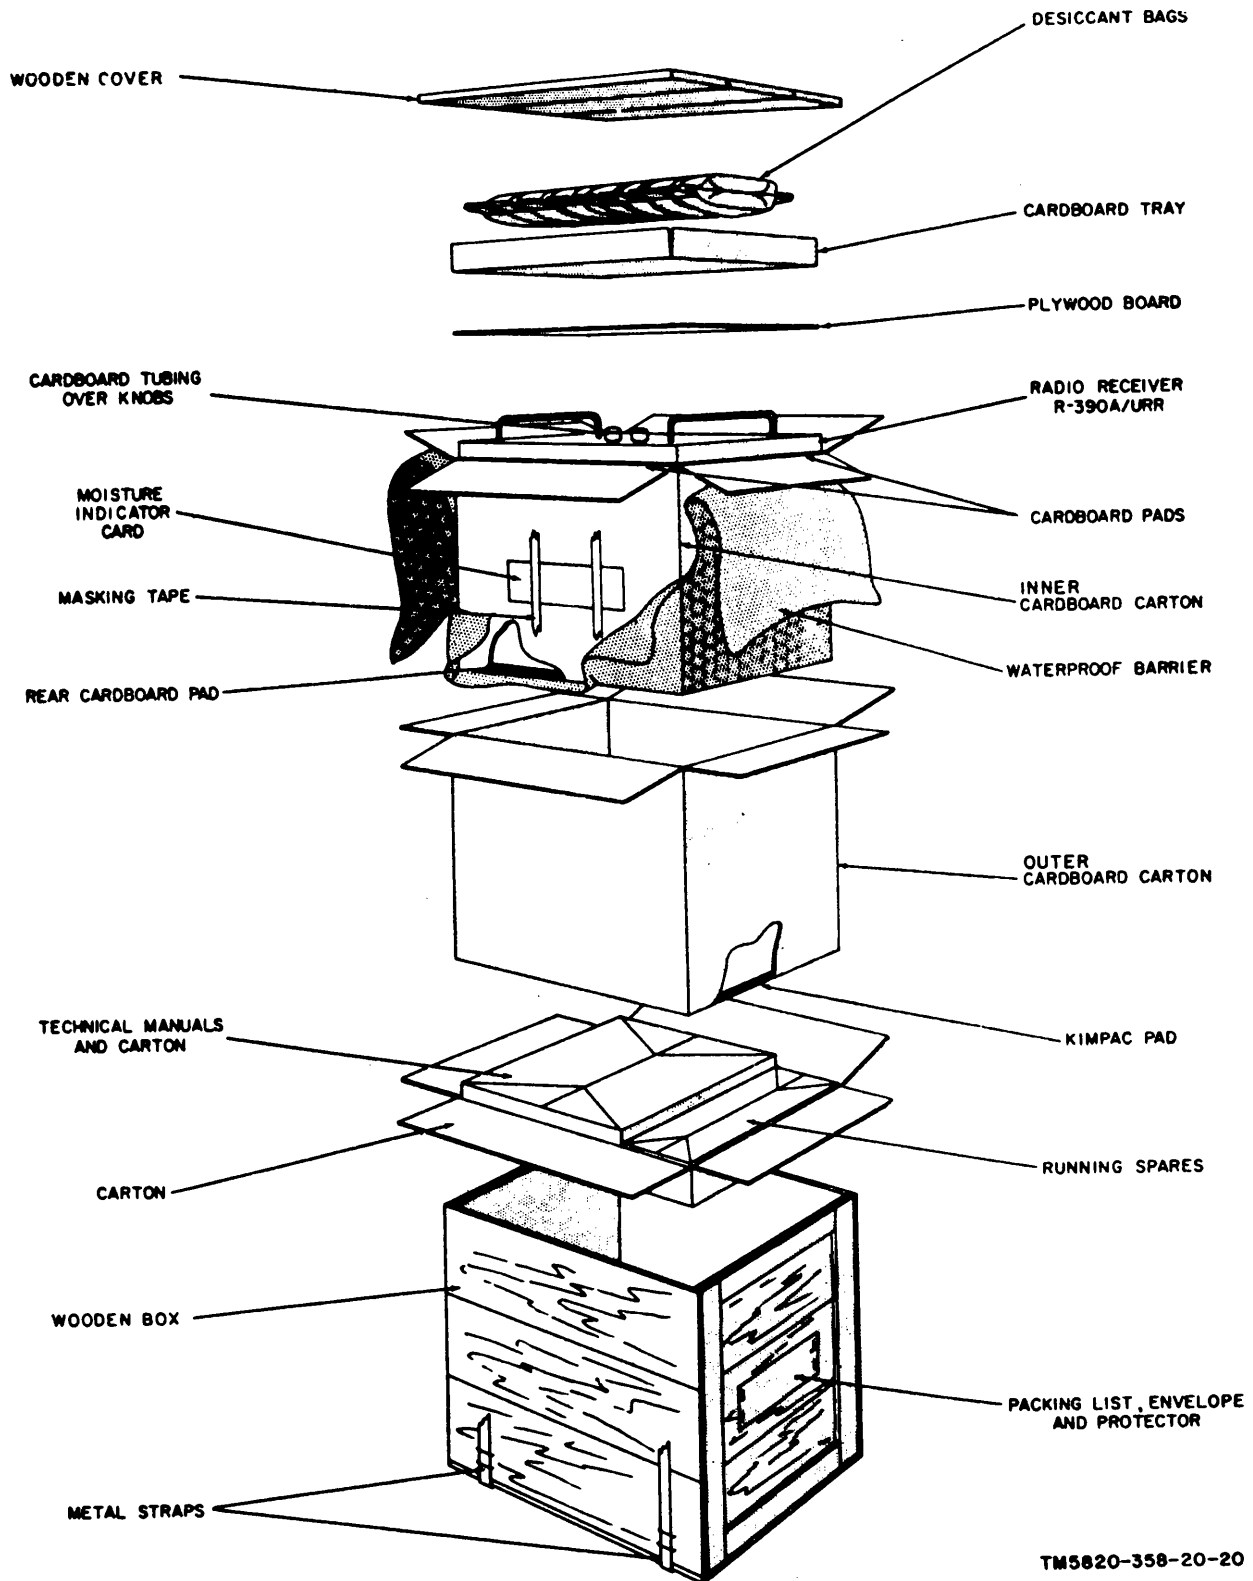

Figure 1. Packaging.
a. *Packaging Data.* When packed for shipment, the components of the receiver are placed in a water-vaporproof container and packed in a wooden box. An exploded view of the wooden box and its contents is shown in figure 1. The dimensions of the box are approximately 24 1/4 inches high, 20 1/2 inches wide, and 14 3/4 inches deep. The packed box weighs approximately .100 pounds, with a volume of 3.9 cubic feet.
- (1) Place the packing case conveniently near the installation location.
- (2) Cut and fold back the metal straps.
- (3) Remove the nails with a nailpuller.
- (4) Remove the top and one side of the wooden box.
- (5) Remove the desiccant bags, the cardboard tray, and the plywood board.
- (6) Take out the outer cardboard carton that contains the receiver.
- (7) Open the carton and withdraw the inner carton that is enclosed in the moisture-vaporproof barrier.
- (8) Slit open the seams of the moisture vaporproof barrier and open the inner cardboard carton.